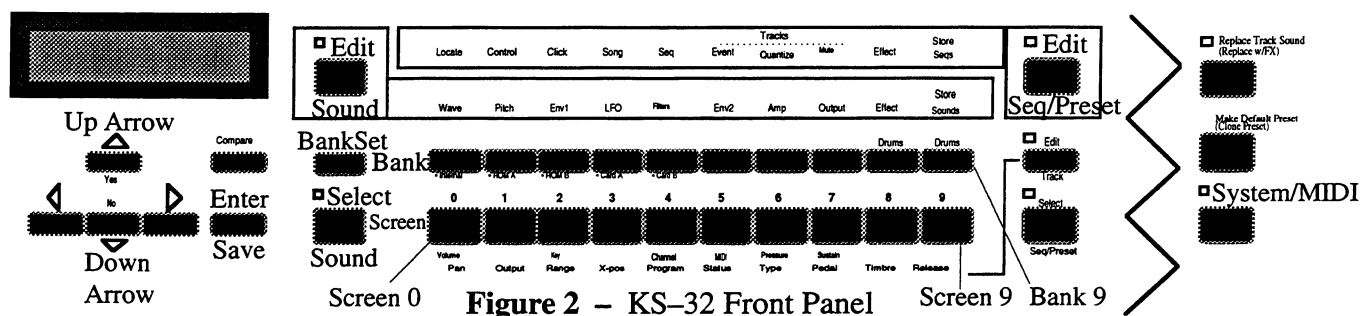

Figure 2 – KS-32 Front Panel
- Press the **Edit Seq/Presets** button (see Figure 2 for button location).
- Press **Edit Seq/Preset** (see Figure 2).